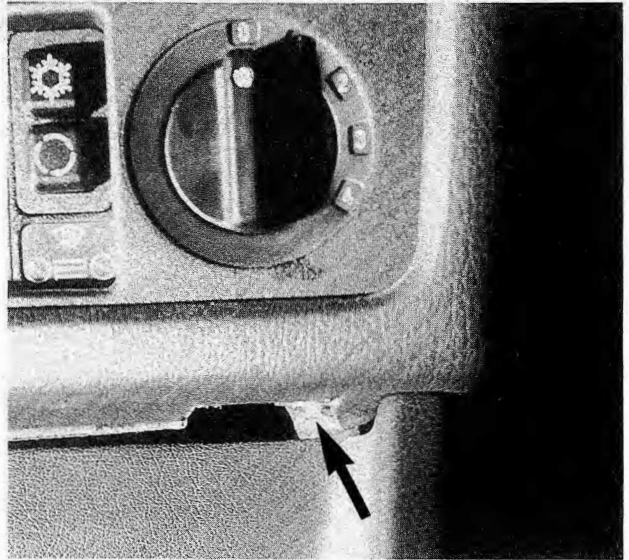
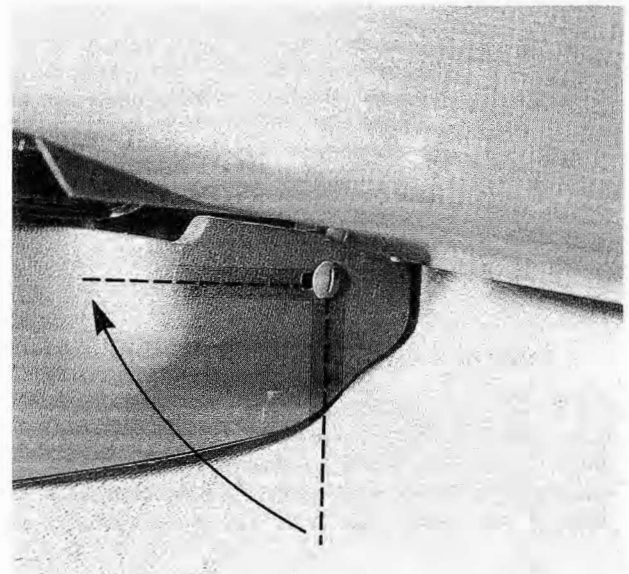

Fig. 4-9. Shift console mounting screw (arrow) under lip of heater controls.
Fig. 4-10. Console retainer. To unlock, turn 90° (¼ turn) counterclockwise. Remove retainers from both sides.
9. Remove the screw under the lip of the heater controls, shown in Fig. 4-9, and turn the console retainers on either side as shown in Fig. 4-10. Remove the shift console by pulling it out to the rear.